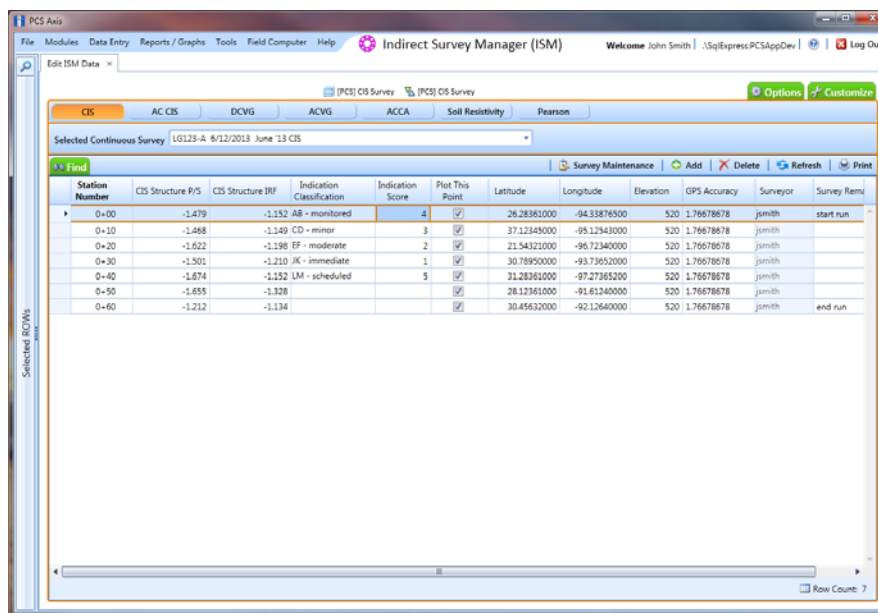

Figure 6-51. Edit ISM Data
- 3 Click **Data Entry > Edit ISM Data** to open the ISM data entry grid. Then click a button labeled with the type of continuous survey data you want to work with, such as the **CIS** button  (Figure 6-51).